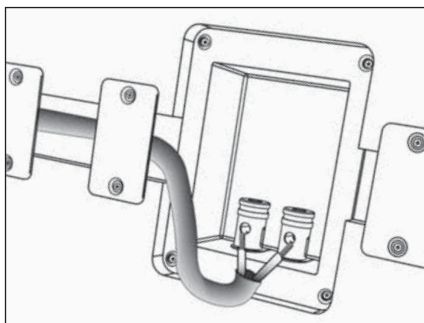

Figure 5. Connecting a loudspeaker wire to the terminals.
3. On each set of loudspeaker connectors, press down the spring-loaded connector, insert the appropriate conductor, and then release the connector, as shown in **Figure 5**. Gently tug on the loudspeaker wire to make sure it is held in place. If not, repeat this procedure until it is.